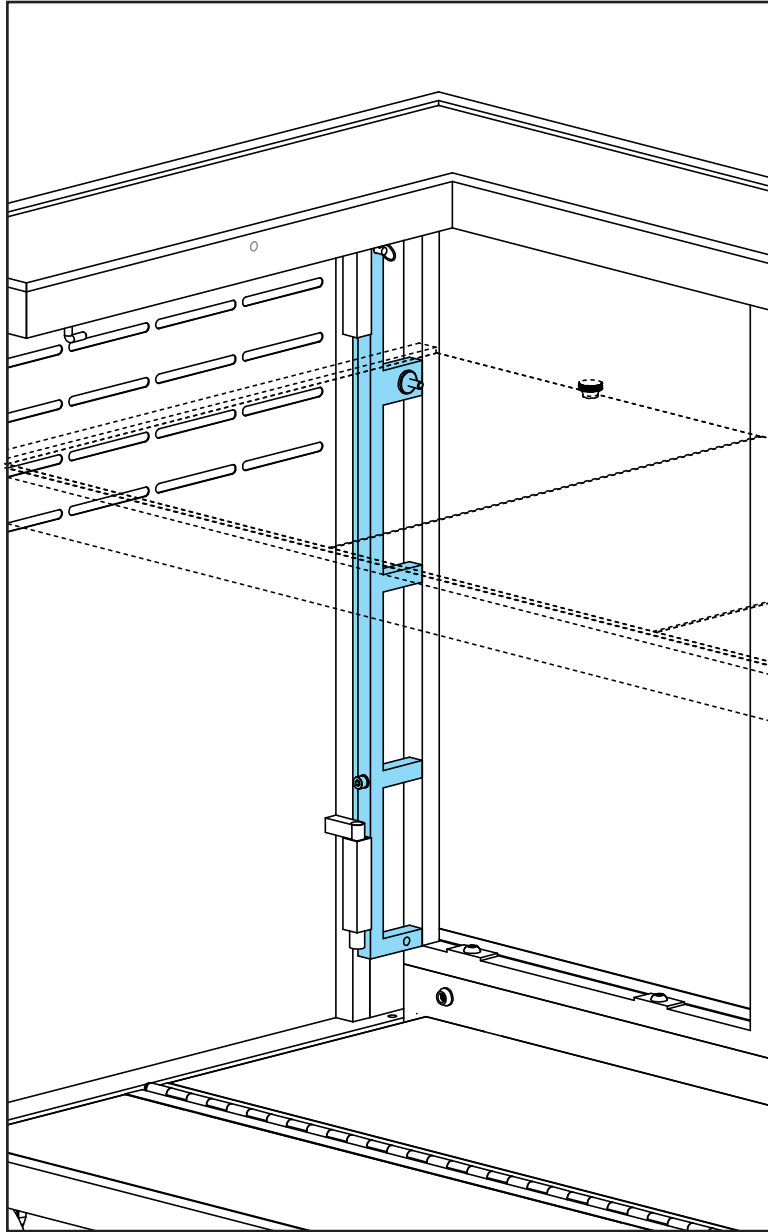

Figure 1
STEP 2: Install battery on the frame highlighted in blue. Make sure to place battery below the working surface. See Figure 1.